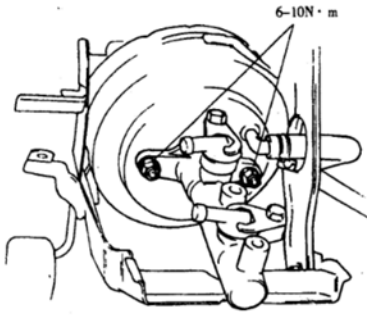

Fig. 3.7-14
- 1) Install the brake master cylinder to the vacuum booster, and screw the fixing nut to the specified torque. (Fig.3.7-14)